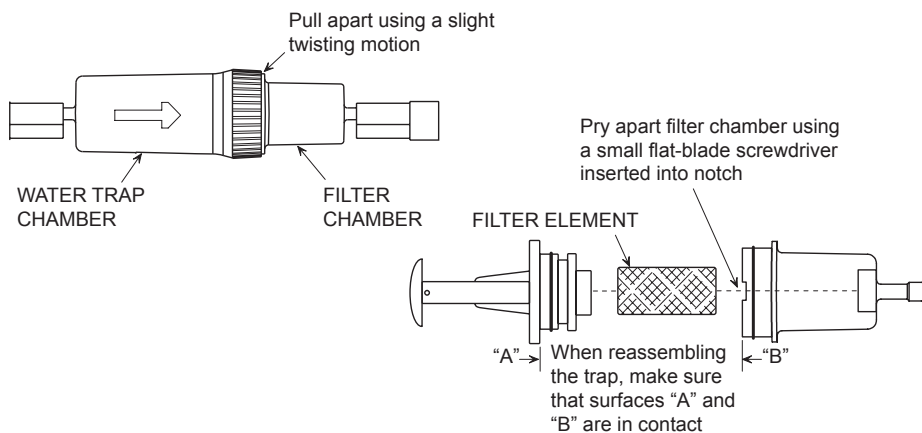

Figure 5-2. Water Trap / Filter Assembly
1. Pull apart the Water Trap / Filter assembly (see Figure 5-2).